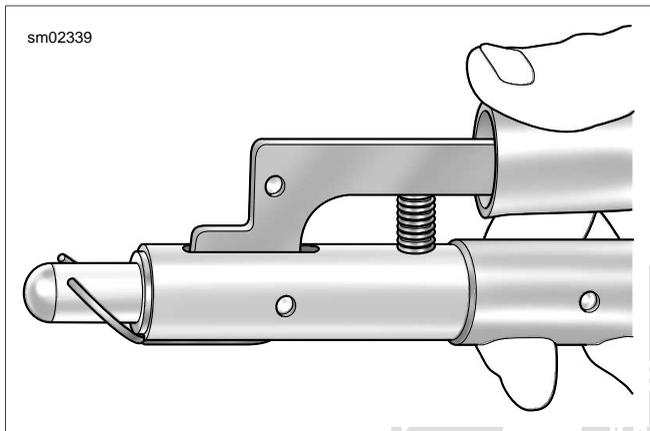

Figure 3-27. Aligning Circlip
- a. See Figure 3-27. Slide circlip down nose of tool until it contacts claw. Lightly squeeze handles of tool to capture circlip in claw.